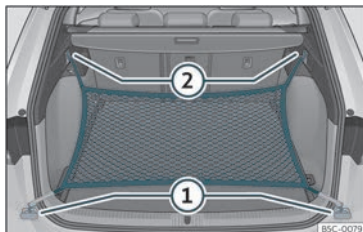

Fig. 126 In the luggage compartment: rings ① and hooks ② for attaching the net bag.
- Secure the short net hooks to the fastening rings»» **Fig. 126** ① »» ⚠. The bag zip should be facing upwards.
- Secure the straps in the bag hooks ②.